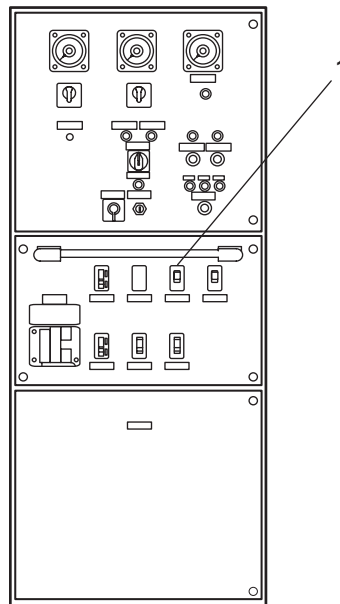

Figure 1. Emergency Switchboard
- a. At the emergency switchboard, in the emergency diesel generator room, set the FIRE PUMP NO. 1 circuit breaker (figure 1, item 1) to ON.